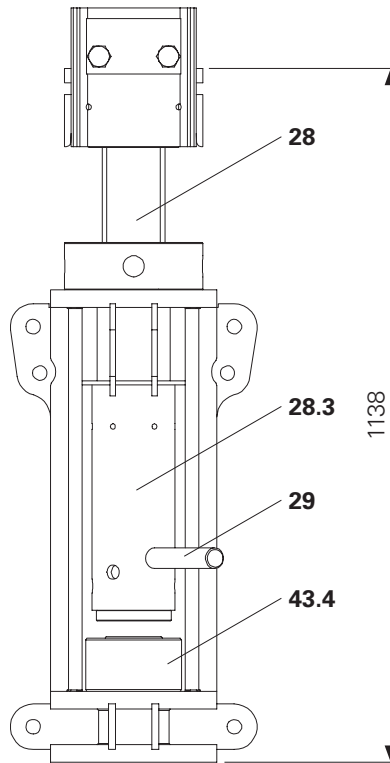

Fig. D1.05
1. Insert the hydraulic cylinder (43.4) into the head spindle VST 100 (28).
2. Insert the mounting shaft VST (29) into the spindle sleeve (28.3). (Fig. D1.05)